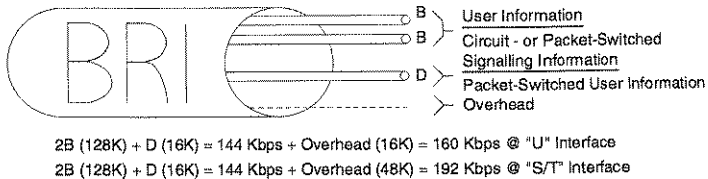

Figure 1.3 ISDN Basic Rate Interface
ISDN BRI uses a standard 2-wire non-loaded telephone line to provide digital channels capable of simultaneous voice, data, and low speed video transmission. The Channels consist of two Bearer (B) Channels, which carry Voice, Circuit-Switched, or Packet-Switched Data up to 64 Kbps, and a 16 kb/s; Data or Delta (D) Channel for packet-switched data and signaling information. When combined, the two B channels and one D Channel make up the Basic Rate (2B+D) Access. A Maintenance Channel and framing information are added, and the result is a transmission rate of 160 Kbps at the "U" Interface. See Figure 1.3 below: